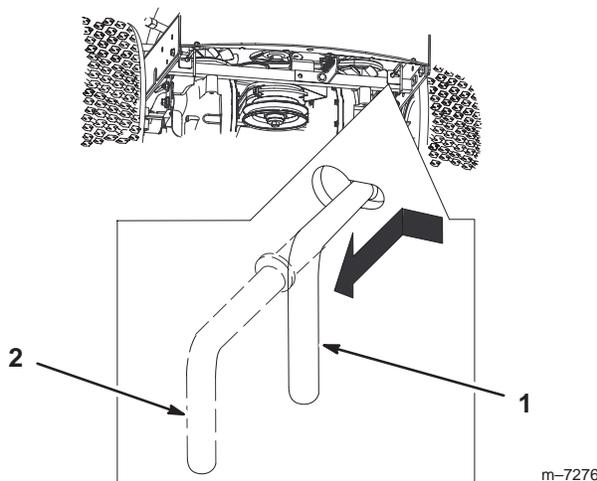

Figure 1
3. Move the two bypass levers to the inside and push them in until the washer on the rod passes through the slot (Fig. 1).
4. Push the levers toward the outside to lock them in place (Fig. 1).